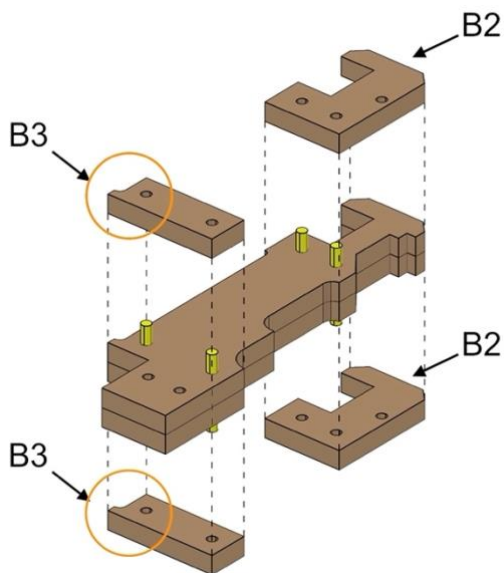

Fig. 7
- Align parts exactly as shown in Fig. 7.